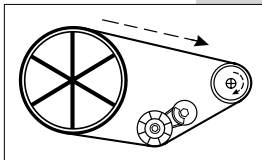

Fig. 1
- Rotary tensioner should always be mounted on the slack side of the belt or chain drive. See Figure 1.